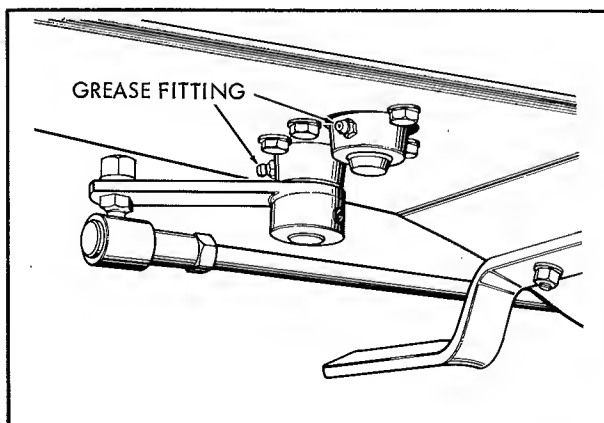

Fig. 6
- (2) Steering Mechanism - figure 6